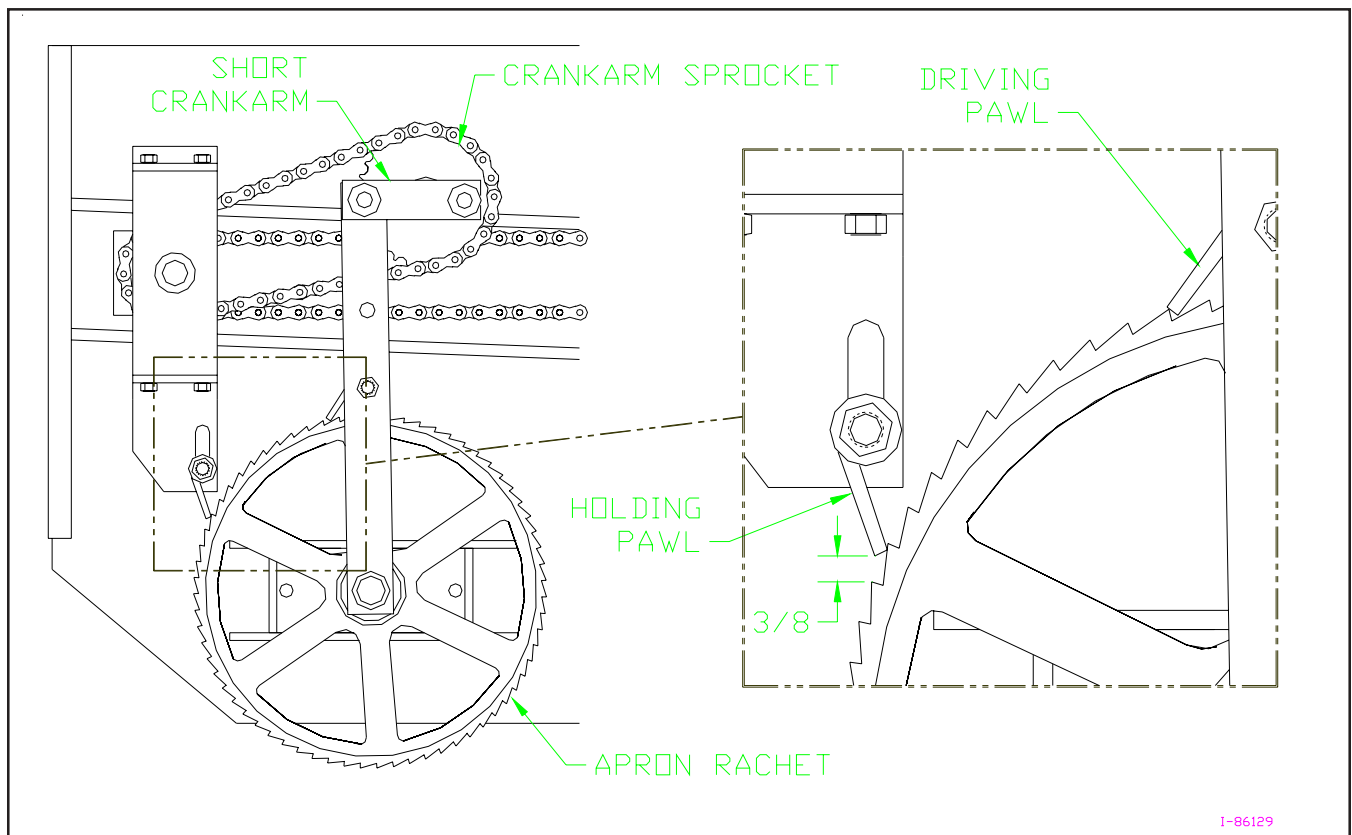

Figure 4C - Adjusting the Apron Chain Speed
Depending upon the consistency of material being spread and/or the desired thickness of spreading, adjustments to the apron chain speed may be made to achieve the desired spreading action. The speed of the apron chain can be varied by adjusting the position of the Holding Pawl (as shown in Figure 4C).
- Adjust the Holding Pawl to obtain a 1/8" gap between the end of the pawl and bottom of the notch as shown in Figure 4C. Tighten the nut to secure the Holding Pawl.